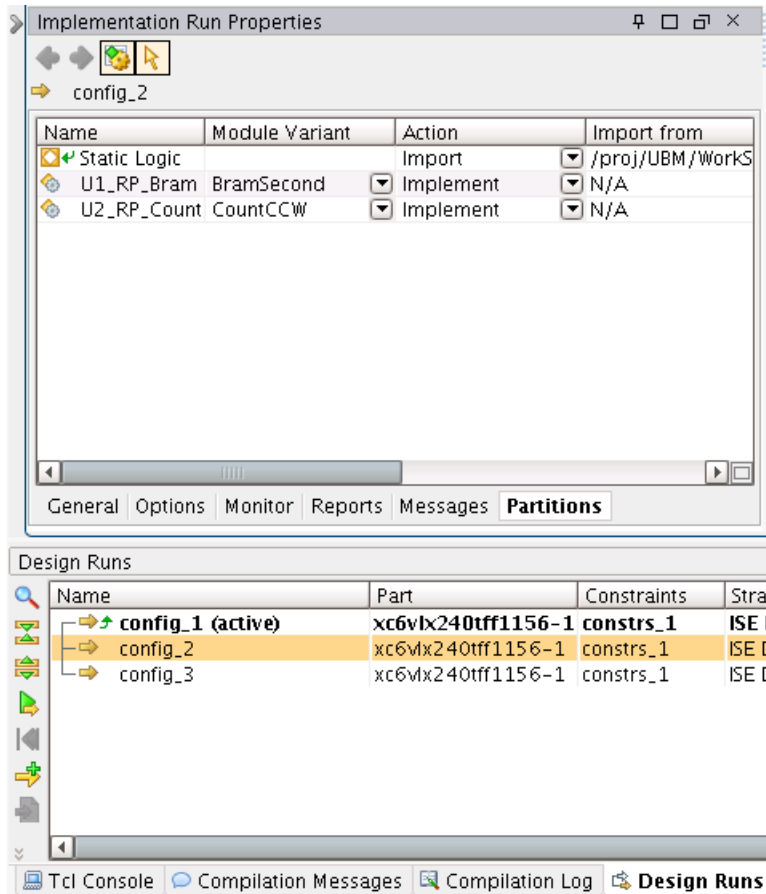

Figure 27: Verify Configuration Settings
- 10-1-14.** In the Design Runs window, you will now see new configurations that were created through the wizard. Select a new configuration in the Design Runs window and click the Partitions tab in the Implementation Run Properties window (Figure 27) to verify the Module Variants and Action fields. Note that the Static logic is set to Import, and will be imported from the promoted results from `config_1`.